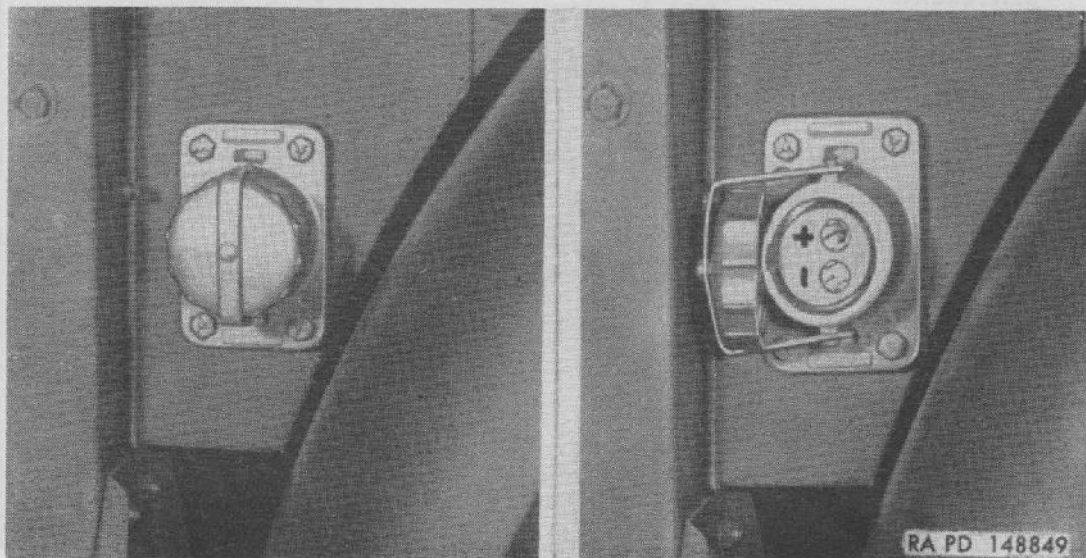

Figure 80. Slave battery receptacle with cover closed and open.
c. SLAVE BATTERY RECEPTACLE. Slave battery receptacle is installed at right side of cab at rear of fender (fig. 80). Receptacle is connected in parallel with the batteries. Receptacle is used to charge the batteries from an external source, or to connect a slave battery to assist in starting engine. Receptacle also provides a convenient source of battery current for polarizing generator or for operating external electrical accessories.
d. CHARGING BATTERIES. Fill battery cells to proper level (c above). Charging circuit can be connected at slave battery receptacle (fig. 80). Batteries should be supplied with a charging current of 11 amperes which is equal to 1 amp per positive plate per cell. Charging should continue for two hours after specific gravity shows no further rise. Electrolyte temperature should not be permitted to exceed 110° F. while charging.
- (3) Remove nut and bolt attaching two cable clips to floor sill. Remove clip from each cable.
- (4) Remove four nuts and bolts attaching slave battery receptacle to side of cab (fig. 80). Withdraw receptacle and cables from hole in cab.